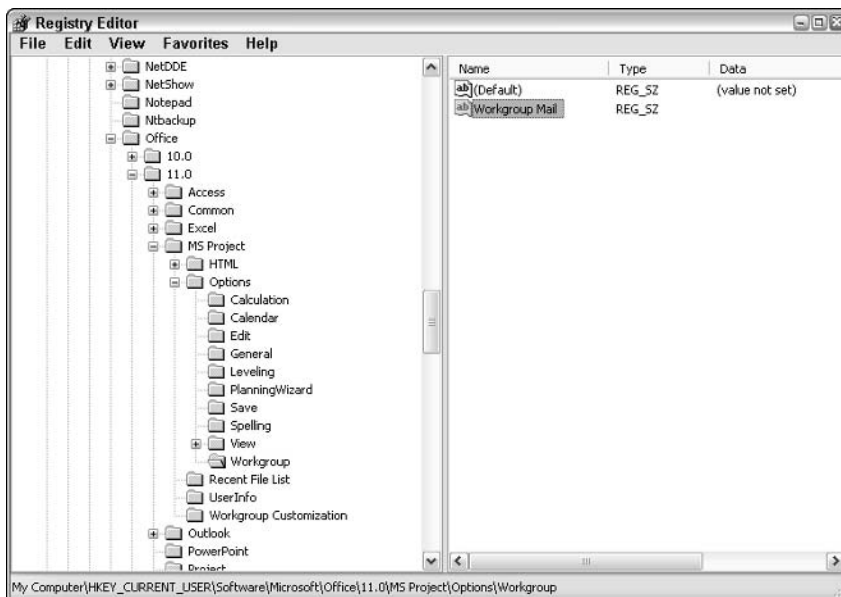

Figure 16-5: The registry after adding a new key and string value.
8. To name the new string value, type **Workgroup Mail** and press Enter. When you finish, your screen should resemble the one shown in Figure 16-5.